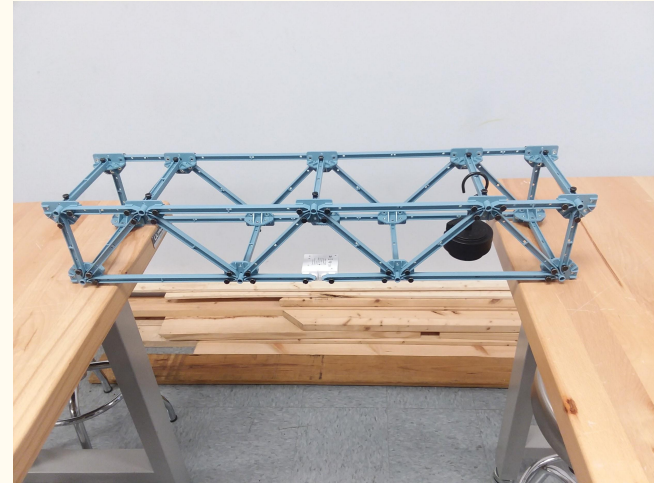

Fig 7 Shows the constructed Warren Truss
- Truss was constructed using PASCO structural beams (see fig 7)